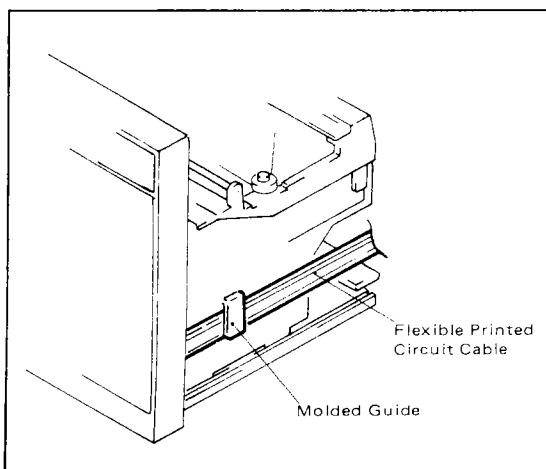

Figure 10-13. Inserting Flexible Printed Circuit Cable.
- (6) Pass the front panel flexible printed circuit cable under the molded guide (see Figure 10-13).